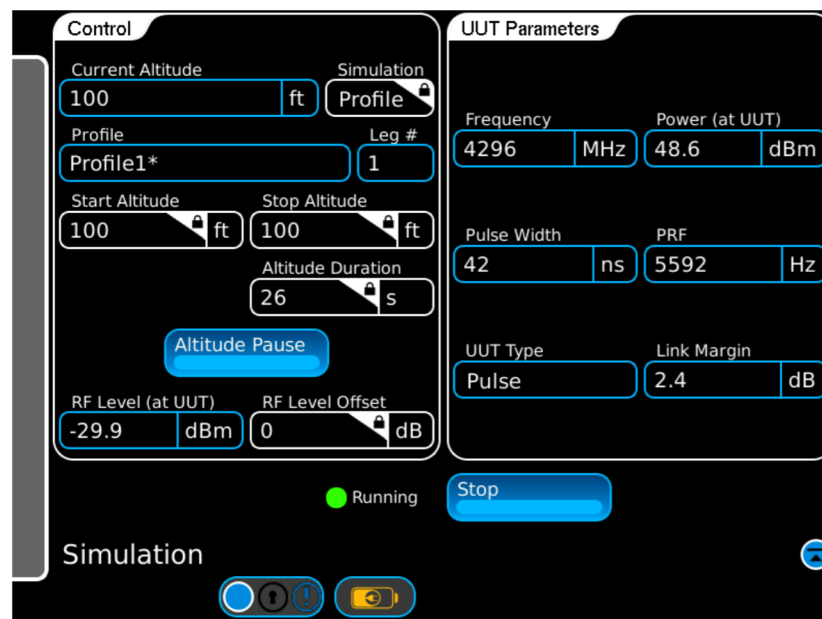

Figure 4-4 Simulation – Profile Screen
38. Set **Control – Simulation** to **Profile**. See Figure 4-4.
39. Press the **Run** button to start the profile simulation. See Figure 4-4.
41. Verify that the displayed altitude on the RADIO ALTIMETER display tracks the altitude displayed in the **Control – Current Altitude** window. See Figure 4-4.